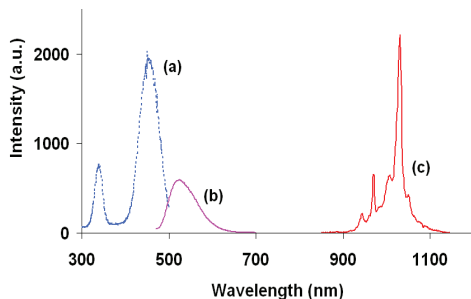

Figure 1: PL characteristics of Ce & Yb co-doped with YAG phosphor
The programmable OSL (Optically stimulated Luminescence) reader systems are in great demand in all the research and academic institutions for their applications in advanced radiation dosimeters research. Dosimeters for personnel monitoring are required in radiation department. The YAG:Ce phosphor developed in 1967 by Blasse and Brill has been practically used as cathode ray tube phosphors (P 46 and P 48) [1]. Blasse and Brill [2] also showed that this phosphor emitted in yellow region when excited by blue light. Photoluminescence (PL) characteristics Ce&Yb co-doped with YAG phosphor has been shown in Figure 1. Modifications brought in the PL characteristics by substitutions continue to interest researcher to date [3].